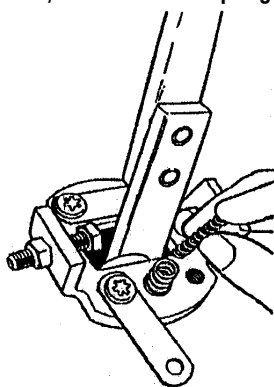

FIG. 3
15. Loosen both Torx head screws using a No. 30 Torx head driver bit. Remove one screw and slide retainer away to expose springs. Remove inner (smaller) spring only. Replace retainer and screw. Tighten both screws to 125-150 inch pounds. Repeat this procedure on opposite side (Refer to Fig. 3). **NOTE:** If you are not satisfied with the "softer" shifter stick tension, re-install inner springs.